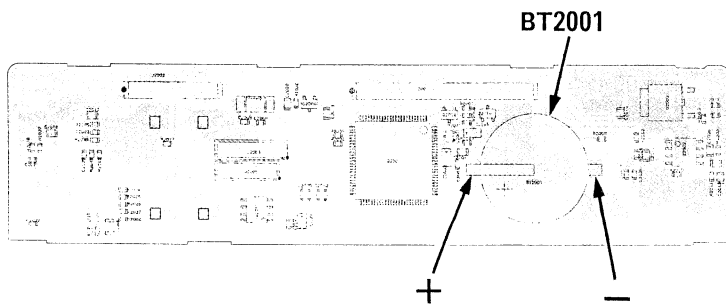

Figure 9.
- ☐ With the Control Unit removed from the chassis, locate Lithium Backup Battery BT2001(P/N Q9000552) on the rear side of the PCB (Figure 9). Note the polarity and correct mounting of the cell terminals. Unsolder the battery terminals and remove the old cell. Note: do not dispose of the old battery in fire, and ensure small children cannot play with, or possibly ingest the cell.